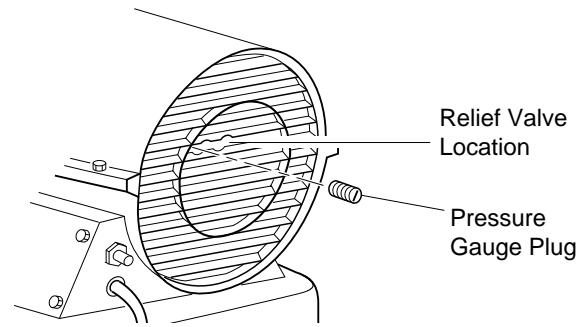
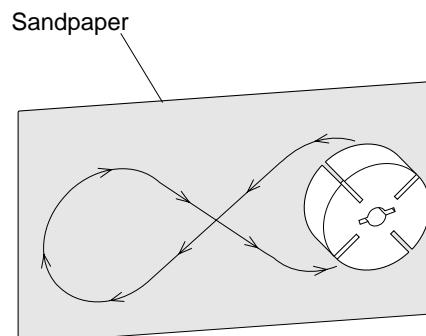

Figure 8 - Pressure Gauge Plug Removal
Figure 17 - Sanding Rotor
14. Place fine grade sandpaper (600 grit) on flat surface. Sand rotor lightly in "figure 8" motion four times (see Figure 17).